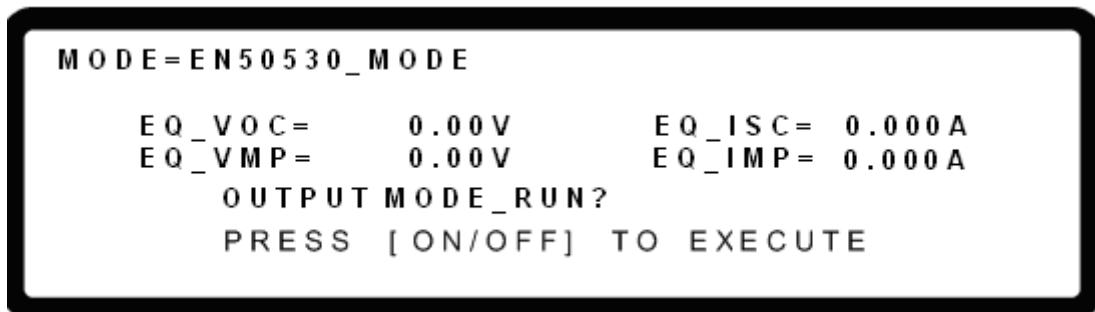

Figure 3-167
5. Press “**ON/OFF**” to display the confirmation window as shown in Figure 3-167.